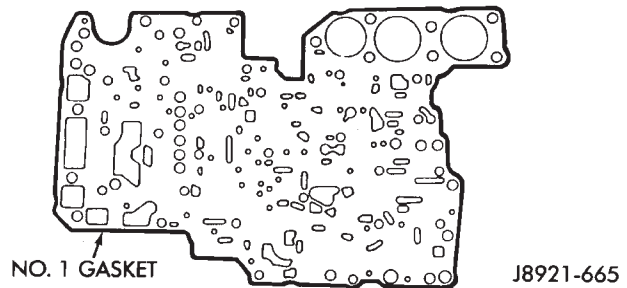

Fig. 1 Valve Body Gasket No. 1
(1) Position new No. 1 gasket (Fig. 1) on upper body.
(2) Position valve body plate on No. 1 gasket.